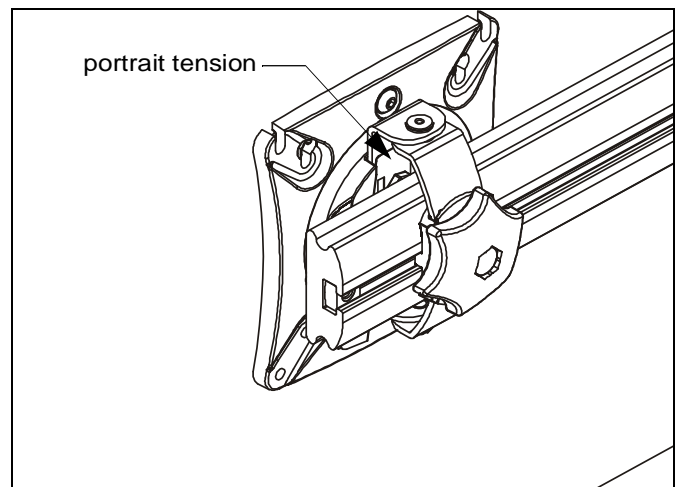

Figure 11
1. The monitor may be adjusted 90 degrees in either direction in order to provide a portrait view of the monitor. (See Figure 11)
2. Use 3/16" hex key (L) to adjust rotational adjustment screw to adjust rotational tension. (See Figure 11)